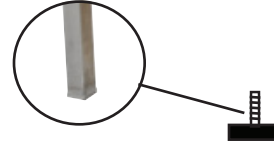

Figure 1
2. Use the Rubber Mounting Feet provided to level your station. (Fig. 1)